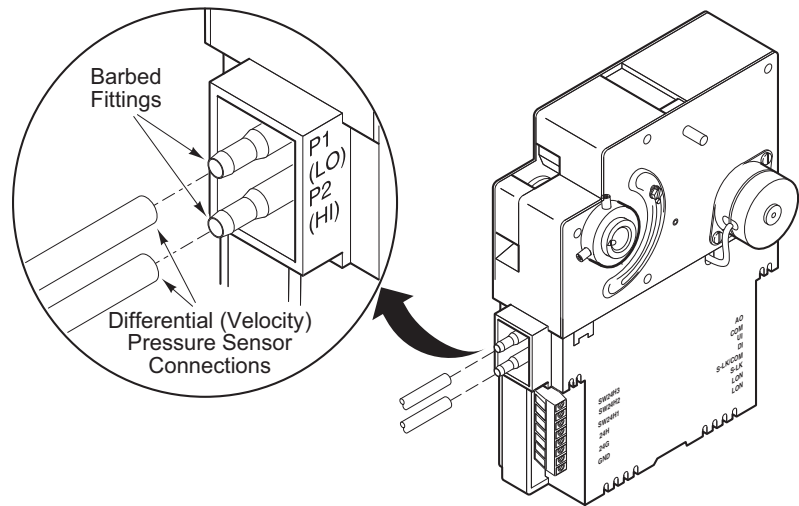

Figure-7 Differential (Velocity) Pressure Connections.
2. Connect tubing to barbed fittings on VAV Controller. See Figure-7.